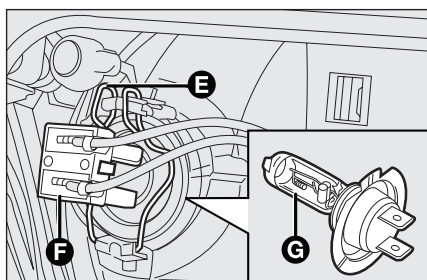

fig. 22
- ☐ disconnect the electric connector **F**-fig. 22;